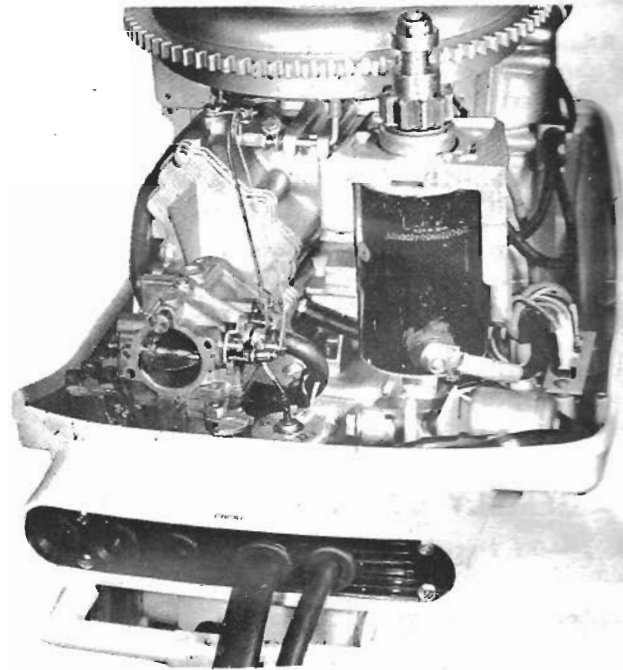

FIGURE 6
2. Route battery cable through 2nd hole—port side of control panel as shown in Fig. 6.
1. Mount the starter motor to the starter mounting bracket with terminal facing forward and slightly toward the port side of the engine. The starter motor is mounted using the two thru bolts which are part of the starter motor. SEE FIG. 6.